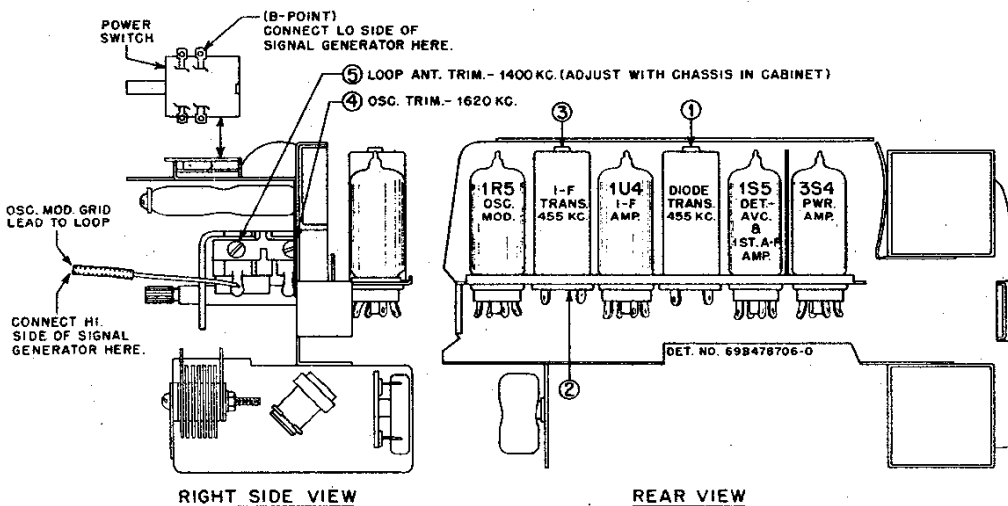

FIGURE 3. CHASSIS HS-62A TUBE & TRIMMER LOCATIONS
(Refer to Figure 3 for location of all alignment trimmers and cores).
4.	1400 Kc	None	Radiation loop **	1400 Kc	5	Tune signal in on receiver, then adjust loop trimmer (5) for maximum. Loop trimmer is reached through hole under plug button on side of cabinet.
* A convenient point for these connections is the stator of the loop section of the tuning capacitor and the rear left hand lug on the power switch. See Figure 3.